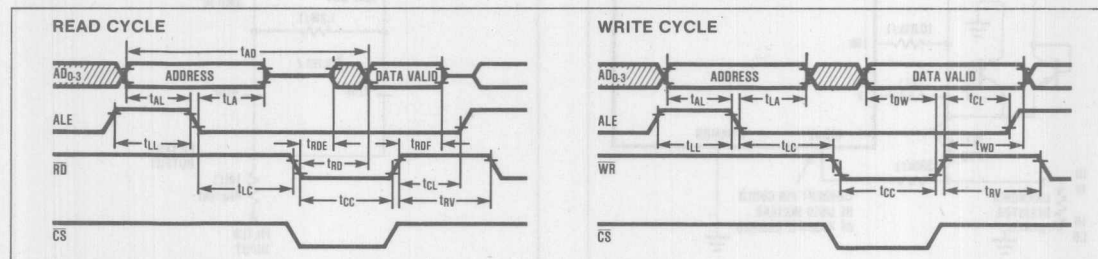

Figure 5. MAX133 Read and Write Sequence
The MAX133 uses only 7 lines to interface with the microprocessor. The microprocessor first selects the register to be read or written to by placing the address of the register onto the 4 bit multiplexed address/data bus. The microprocessor then pulses the Address Latch Enable (ALE) line high to latch the register address into the MAX133. To read the selected register, the microprocessor then drives the Read line low, and the MAX133 places the register data onto the data bus. To write to the selected register the address is latched as described above, then the microprocessor places the data onto the bus and then pulses the Write line low. The MAX133 latches the data into the data into the selected register on the rising edge of Write. See Figure 5. The Chip Select (CS) line must be low to enable either the RD or WR lines, but ALE is not gated by CS.